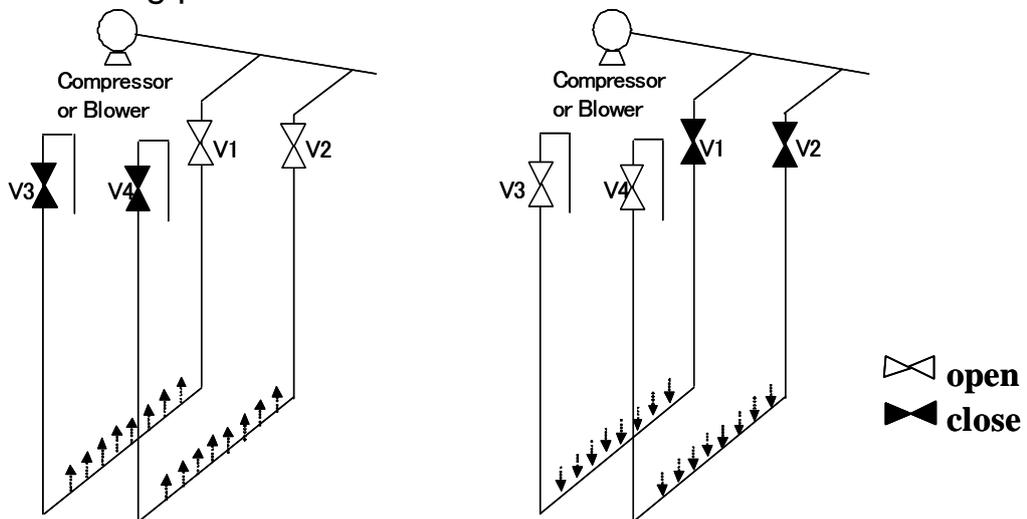

Fig.12 Condition when air scrubbing      Fig.13 Condition when stop operation
- (1) After do the air scrubbing (Fig.12), close V1 and V2, open V3 and V4 valve (Fig.13). At this step, the water from the tank comes through the diffuser holes into diffuser piping, and is discharged with the water (Stop operation).